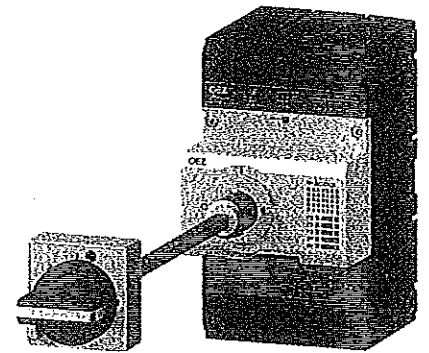

Fig. 2 - DIMENSIONS, see page D27, D33
b) through the switchboard door (fig. 2)